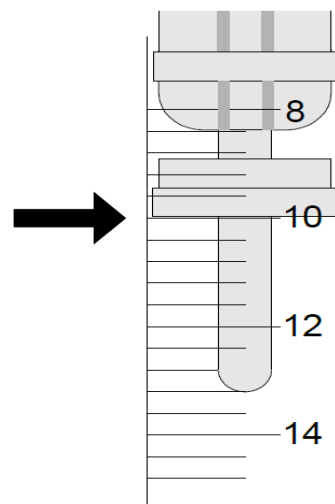

Fig 3 - Read result from titrator mark
- 10 Observe the mark corresponding to the solution in the titrator (Fig 3). This figure represents the active organophosphonate concentration in the sample as milligrams per litre.